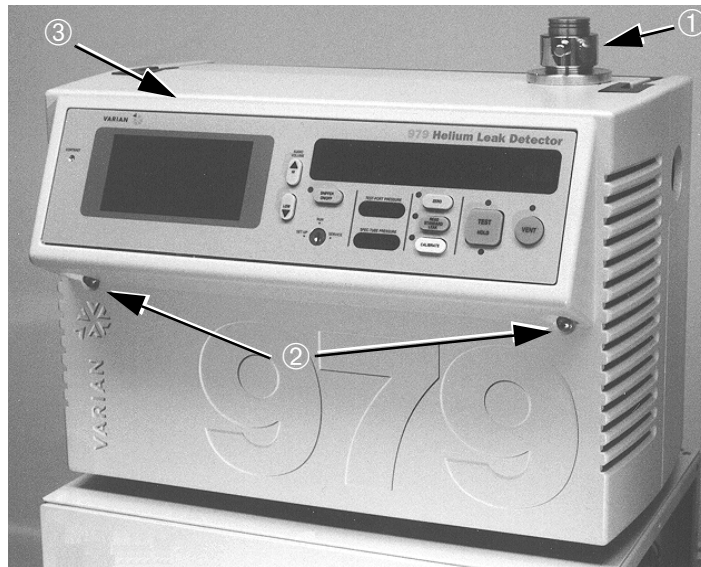

Figure 5-1 Front Panel
1. Loosen the test port nut ① and remove the two (2) Phillips-head screws ② from the Model 979C front panel (Figure 5-1).